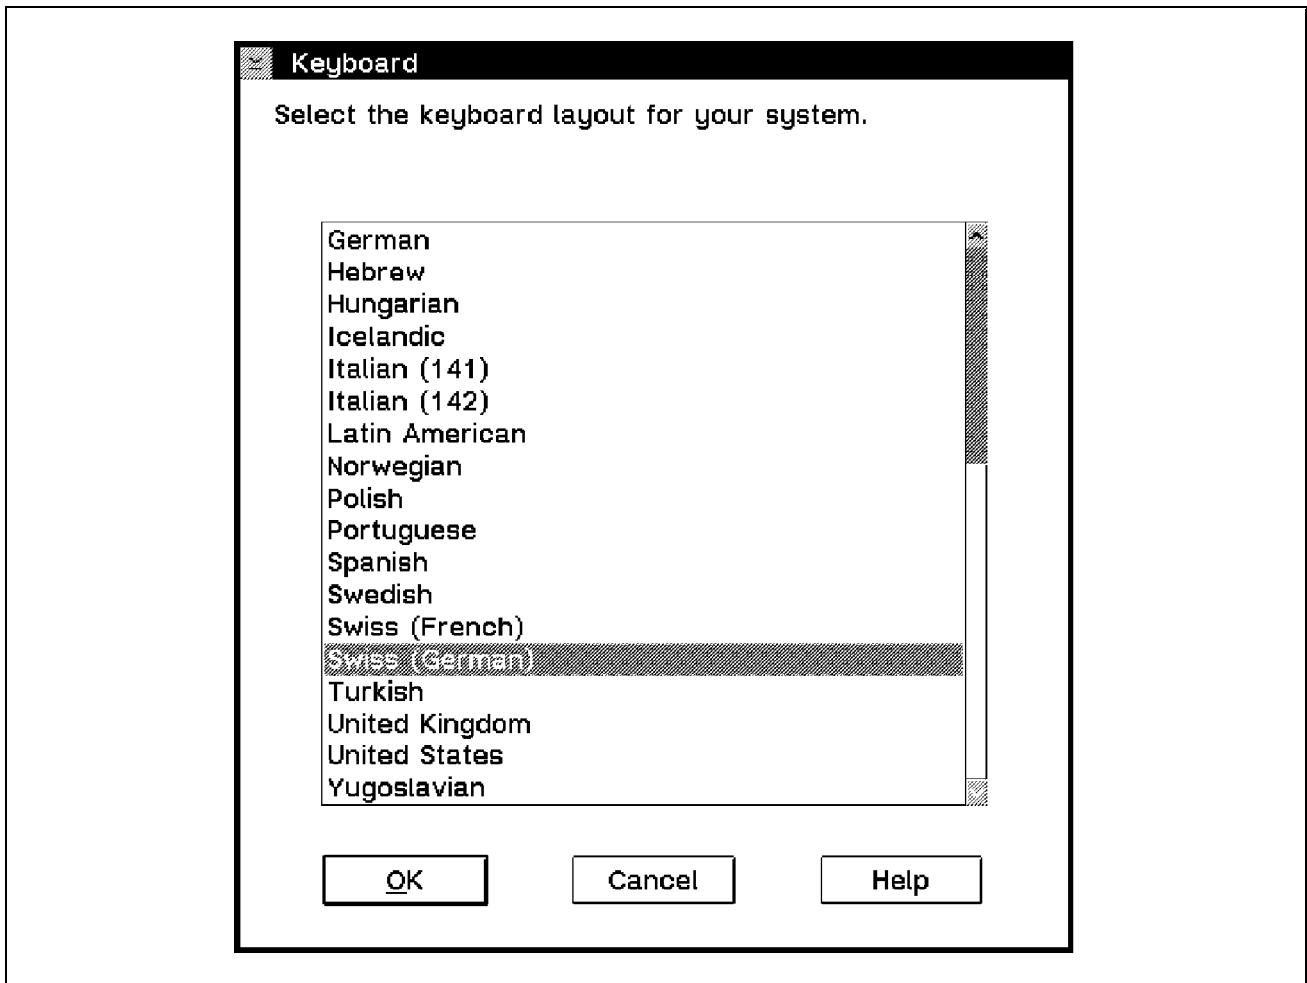

Figure 97. The Keyboard Layout Selection Page
- Select **Keyboard** from the Panel. A list of keyboard country layouts appears as seen in Figure 97 on page 277.